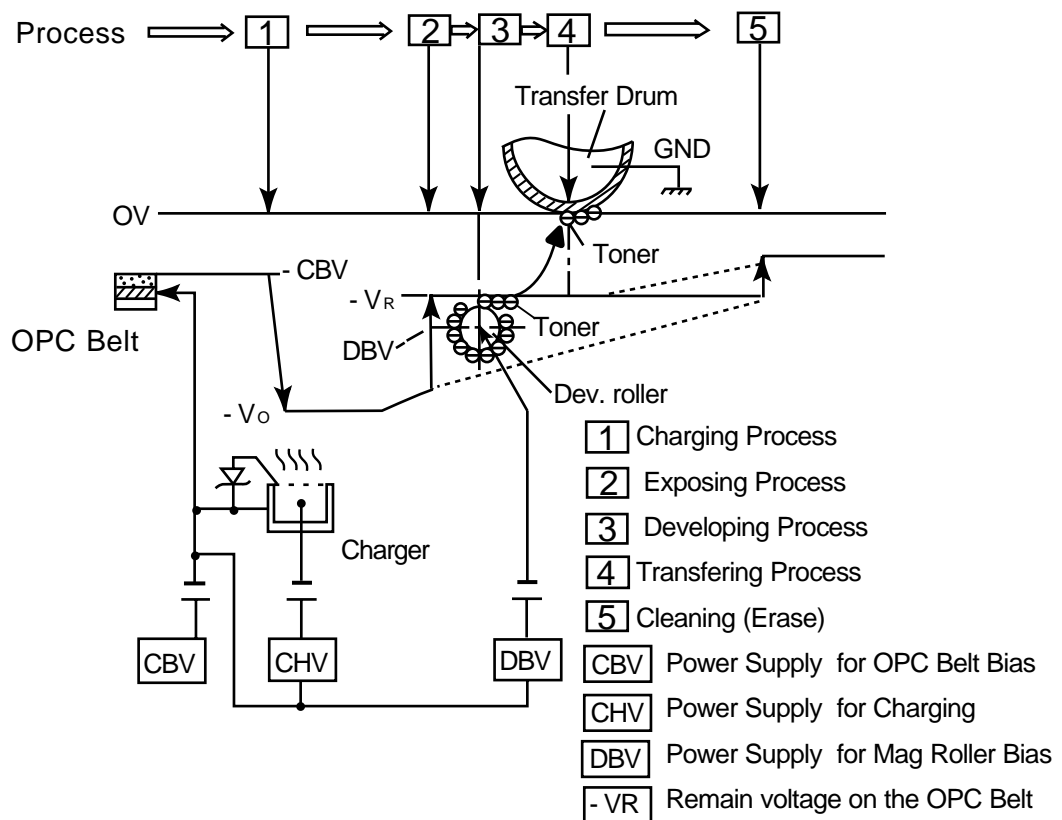

Fig.4-10
- (2) Variation of OPC Belt Potential (See Fig.4-10.)